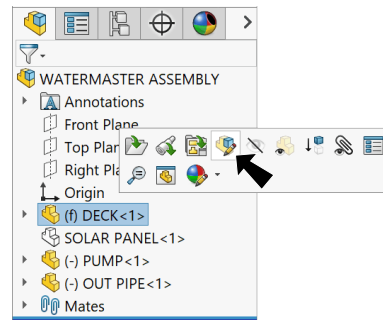

Fig. 16
Step 1. Click **Deck**  part in the Feature Manager and click **Edit Part**  on the context toolbar, **Fig. 16**.